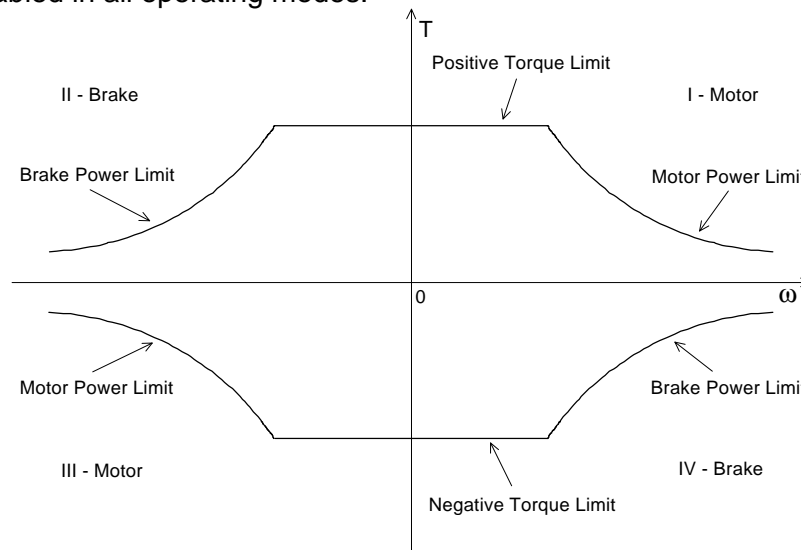
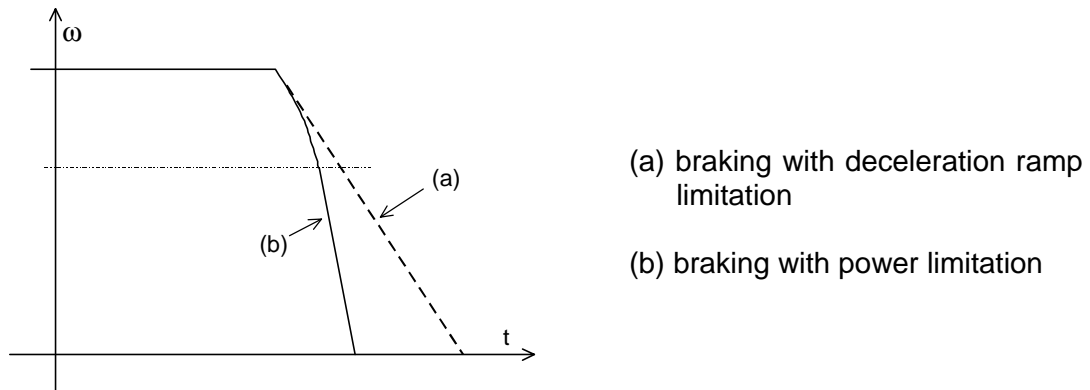

Fig. 3-4: Torque and power limitations
Fig. 3-5: Use of the “Brake Power Limit” to optimize braking
- it represents the digital upper limit, in Nm, of the torque reference (see Fig. 3-4). This function is enabled both in Torque Mode, when the torque reference is explicit, and in the other operating modes as well, when the torque reference comes from an external speed loop. When the analog torque limitation is also active, the upper limit is calculated as the lowest value between the digital and the analog limit;
- it represents the digital lower limit, in Nm, of the torque reference (see Fig. 3-4). This function is active both in Torque Mode, when the torque reference is explicit, and in the other operating modes as well, when the torque reference comes from an external speed loop. When the analog torque limitation is also active, the lower limit is calculated as the highest value between the digital and the analog limit.
- it represents the limit of supplied power, in W, in motoring operation (see Fig. 3-4) and can be enabled in all operating modes.
- it represents the maximum power dissipation during braking (see Fig. 3-4), in W, and is a function enabled in all operating modes. This parameter allows to directly limit the braking power peak, preventing the intervention of the Overvoltage DC Bus protection. Fig. 3-5 shows how the maximum brake power is limited through the power limitation and the modality conventionally used, through the braking ramps limitation. With the